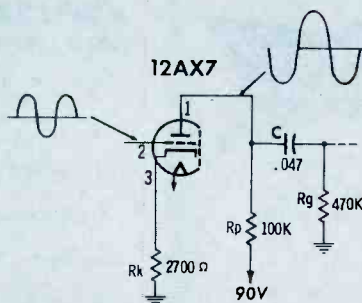
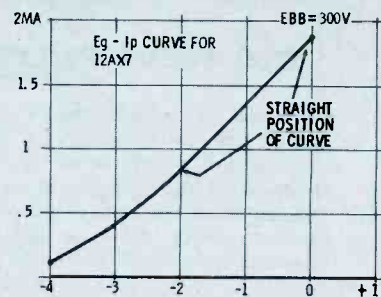

Fig. 1. Parallel combination of  $R_p$  and  $R_g$  form the total load impedance  $Z_o$ .
Fig. 2. Linear portion of  $E_g$ - $I_p$  curve for 12AX7 tube with 300-volt plate E.
A class-A voltage amplifier stage generally employs a triode or a pentode biased so that the input signal never drives it into saturation or cutoff (See W1 of Fig. 1). The tube operates on the linear portion of its  $E_g$ - $I_p$  curve (Fig. 2), and the signal is thus amplified without becoming distorted.
fiers as examples; however, the principles outlined will also be applicable to other types of class-A amplifiers. Let's select a common audio amplifier tube, say the 12AX7, and use it in the standard circuit of Fig. 1. The values shown were taken from the circuit of an often-used circuit. Using these and the 12AX7 specifications listed in the tube manual, let's figure the gain furnished by this stage.
**Fig. 3. Simplified load circuit class-A amplifier consists of  $R_p$ ,  $C$ , and  $R_g$ .** mentioned very briefly at the beginning of this article. You are probably wondering just where this curve was obtained, since it isn't given in the ordinary tube manual. Well, the data from the average plate-characteristic chart in a tube manual was transferred to graph paper as follows: Consult the curve in Fig. 2 and notice that plate current is plotted vertically, while grid voltage is plotted along the horizontal axis. Since zero bias will produce higher plate current than a more negative bias, the zero bias point is located toward the right side of the graph. At equally spaced points along the horizontal plane, graduations corresponding to the bias curves from the tube manual are marked. Since 300 volts is the value of  $B+$  often used to supply a 12AX7 stage, follow straight up the 300-volt line in the tube manual chart and plot plate-current flow for each bias voltage. You should find that current is 1.9 ma with zero grid volts, 1.4 ma at -1 grid volts, .85 ma at -2 grid volts, .4 ma at -3 grid volts, and .1 ma at -4 grid volts. Connect the points thus obtained and you have the Eg-Ip curve, or transfer curve as it's often called. The curve between -2 volts and 0 volts is linear, since for a given vertical change along this portion there will be an identical horizontal change.